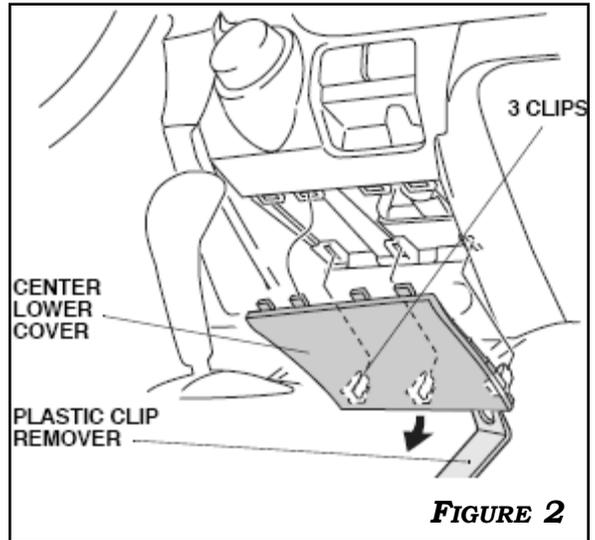

FIGURE 2
1. REMOVE THE LOWER FINISH PANEL COVER ABOVE THE SHIFT LEVER BY USING A TRIM TOOL. **FIGURE 2**
2. REMOVE THE PHILLIPS SCREW AND DISENGAGE THE CLIPS TO REMOVE THE INSTRUMENT CLUSTER FINISH PANEL. **FIGURE 2**
2. REMOVE THE GLOVE BOX. **REMOVE SCREW TO RELEASE THE RADIO ASSEMBLY FROM THE MOUNTING BRACKET.** USE THE HANDLE END OF A HAMMER IN BETWEEN THE BACK OF THE RADIO ASSEMBLY AND THE METAL BRACKET AND PUSH TO DISENGAGE THE CLIPS. CAREFULLY REMOVE THE RADIO ASSEMBLY AND DISCONNECT ALL CONNECTORS. **FIGURE 2**
2. REMOVE (2) PHILLIPS SCREWS AND DISENGAGE CLIPS TO REMOVE THE COMPARTMENT BELOW THE RADIO. **FIGURE 2**